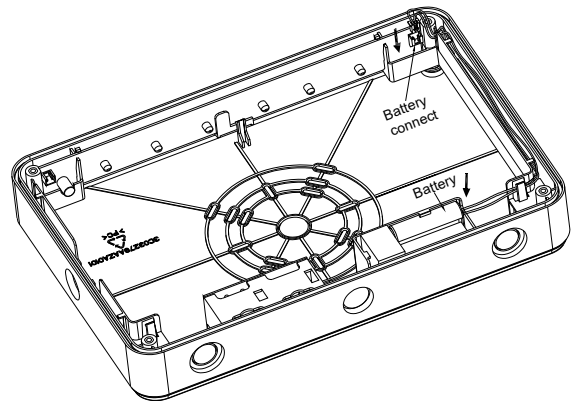

Fig 7
4. Connect the battery terminal to PC board (see Fig 7).